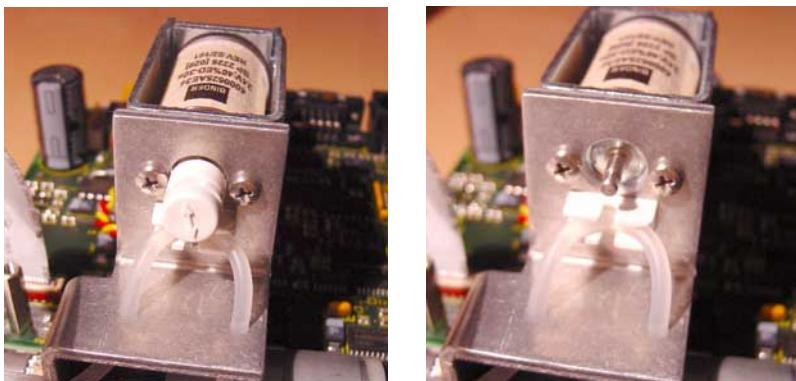

Fig. 4-11 AQC magnetic valve
4. Remove the holder and the valve head from the AQC magnetic valve (see Fig. 4-11).
5. Remove the two screws from the AQC magnetic valve (see Fig. 4-11).